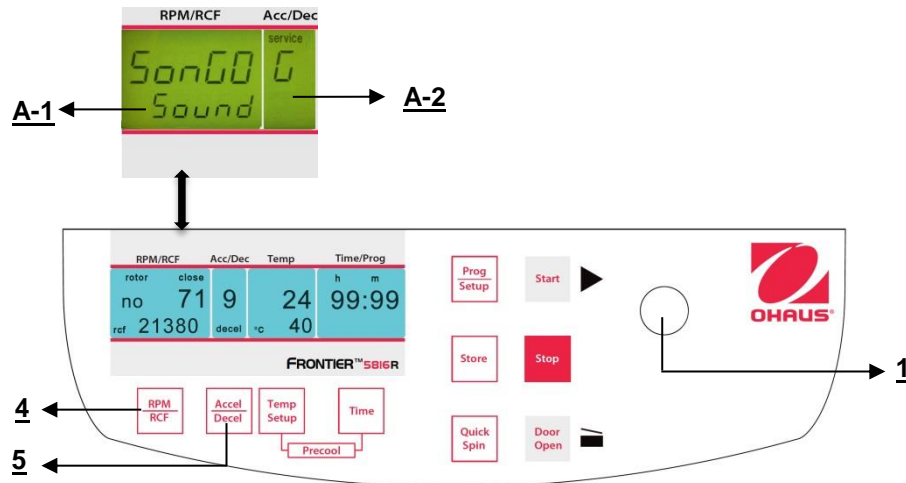

Figure. 34
Proceed as described under point 4.1.1 to enter this program mode and then press the key "**Accel/Decel**" (5). In the display "**Acc/Dec**" (A-2) the word "**Service**" flashes. Now select the letter "**G**" with the adjusting knob (1). As a result, in the display "**RPM | RCF**" (A-1), the word "**SonGo/Sound**" appears. After pressing the key "**RPM | RCF**" (4), you can select a song with the adjusting knob (1). (See figure 34).